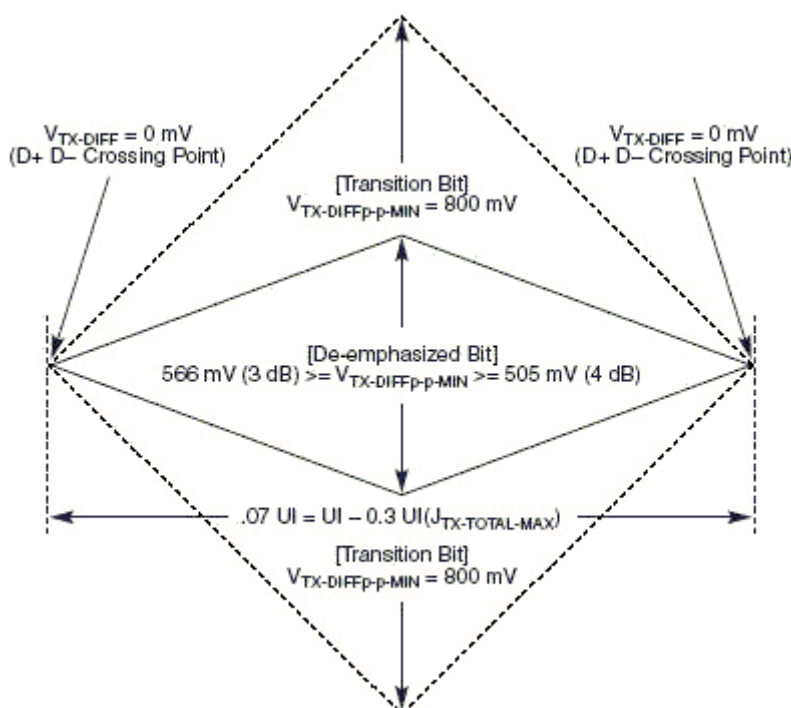
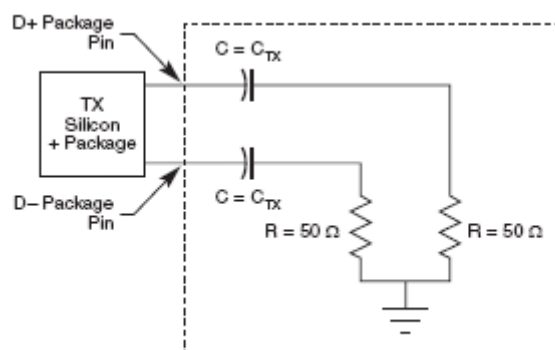

Figure 50. Minimum Transmitter Timing and Voltage Output Compliance Specifications
Figure 52. Compliance Test/Measurement Load
2. Specified at the measurement point into a timing and voltage compliance test load as shown in Figure 52 and measured over any 250 consecutive Tx UIs. (Also refer to the transmitter compliance eye diagram shown in Figure 50)
4. The transmitter input impedance shall result in a differential return loss greater than or equal to 12 dB and a common mode return loss greater than or equal to 6 dB over a frequency range of 50 MHz to 1.25 GHz. This input impedance requirement applies to all valid input levels. The reference impedance for return loss measurements is 50  $\Omega$  to ground for both the D+ and D– line (that is, as measured by a Vector Network Analyzer with 50  $\Omega$  probes—see Figure 52). Note that the series capacitors  $C_{TX}$  is optional for the return loss measurement.
5. Measured between 20–80% at transmitter package pins into a test load as shown in Figure 52 for both  $V_{TX-D+}$  and  $V_{TX-D-}$ .
The Tx eye diagram in Figure 50 is specified using the passive compliance/test measurement load (see Figure 52) in place of any real PCI Express interconnect + Rx component.
2. Specified at the measurement point and measured over any 250 consecutive UIs. The test load in Figure 52 should be used as the Rx device when taking measurements (also refer to the Receiver compliance eye diagram shown in Figure 51). If the clocks to the Rx and Tx are not derived from the same reference clock, the Tx UI recovered from 3500 consecutive UI must be used as a reference for the eye diagram.
4. The receiver input impedance shall result in a differential return loss greater than or equal to 15 dB with the D+ line biased to 300 mV and the D– line biased to –300 mV and a common mode return loss greater than or equal to 6 dB (no bias required) over a frequency range of 50 MHz to 1.25 GHz. This input impedance requirement applies to all valid input levels. The reference impedance for return loss measurements for is 50  $\Omega$  to ground for both the D+ and D– line (that is, as measured by a vector network analyzer with 50- $\Omega$  probes, see Figure 52). Note that the series capacitors  $C_{TX}$  is optional for the return loss measurement.
The Rx eye diagram in Figure 51 is specified using the passive compliance/test measurement load (see Figure 52) in place of any real PCI Express Rx component.
Note that in general, the minimum receiver eye diagram measured with the compliance/test measurement load (see Figure 52) is larger than the minimum receiver eye diagram measured over a range of systems at the input receiver of any real PCI Express component. The degraded eye diagram at the input receiver is due to traces internal to the package as well as silicon parasitic characteristics which cause the real PCI Express component to vary in impedance from the compliance/test measurement load. The input receiver eye diagram is implementation specific and is not specified. A Rx component designer should provide
The reference impedance for return loss measurements is  $50\Omega$  to ground for both the D+ and D– line (that is, as measured by a vector network analyzer with  $50\text{-}\Omega$  probes—see Figure 52). Note that the series capacitors,  $C_{TX}$ , are optional for the return loss measurement.
The AC timing and voltage parameters must be verified at the measurement point, as specified within 0.2 inches of the package pins, into a test/measurement load shown in Figure 52.